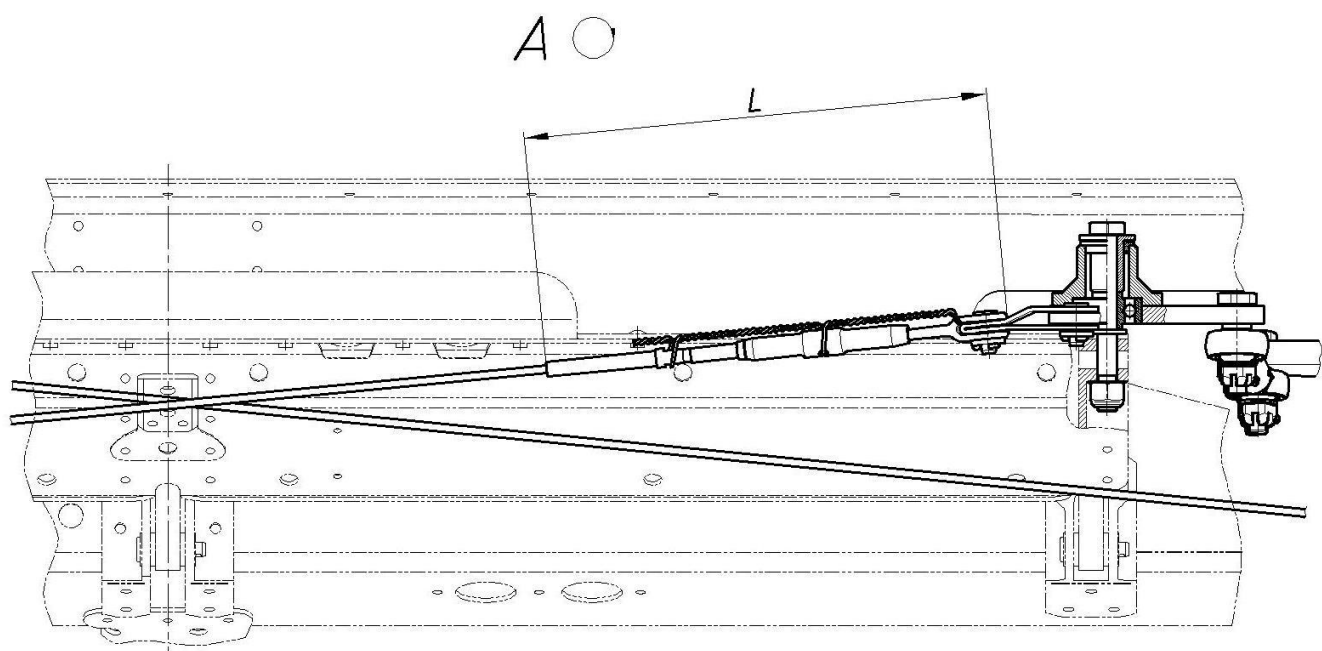

Fig. 2
- 3.2.1 Relieve the tension of the control cables of the roll control system. For that remove the safety wire from one of the system turnbuckles and undo its barrel (see fig. 2). It is not recommended to disconnect the turnbuckle completely.
- 3.4.3 Lock the turnbuckles used for releasing/adjusting the control cable tension (see fig. 2).